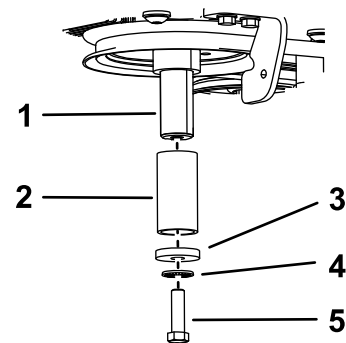

Figure 96
- C. Apply anti-seize compound to the crank shaft, then install the bolt, washer, spring washer, and a spacer (Toro part no. 136-5411) to the shaft (Figure 96).